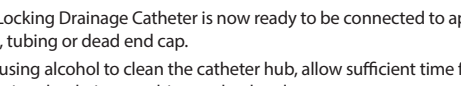

Figure 6
5. Place catheter/cannula assembly over appropriate guide wire and advance into the fluid collection site. The catheter accommodates a 0.038" (0.97 mm) wire. See Figure 6.